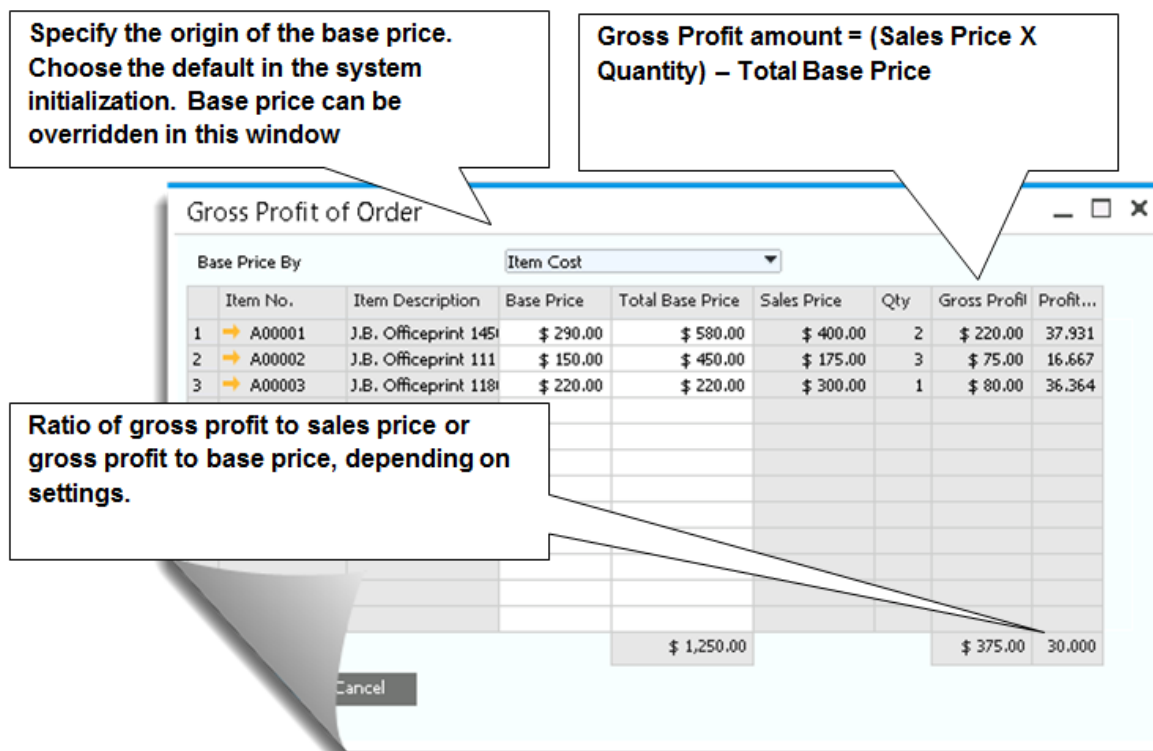

Figure 5-4: The gross profit calculation in action
You can immediately find out the impact of a sales document in terms of the bottom line using the gross profit calculation. Simply click on the  (Gross Profit) icon on the SAP Business One toolbar or open the context menu to display a window like the one shown in Figure 5-4.
**Gross Profit** is calculated by finding the extended sales prices (sales price multiplied by the quantity) minus the extended base price (base price multiplied by the quantity). You can always go back and update base amounts, even if the sales document is already closed. Note that there is no effect on the accounting figures in this case. The **Profit %** is calculated depending on settings on the Administration → Document Settings → General tab, where you specified whether gross profit percentage is the ratio of gross profit to sales price or gross profit to cost price. On the General tab of the Document Settings window, you can set the default for how the base price is calculated: the item cost (the default shown in Figure 5-4), a specific price list, the cost of the item, which is the recommended option, the last purchase price, and so forth.